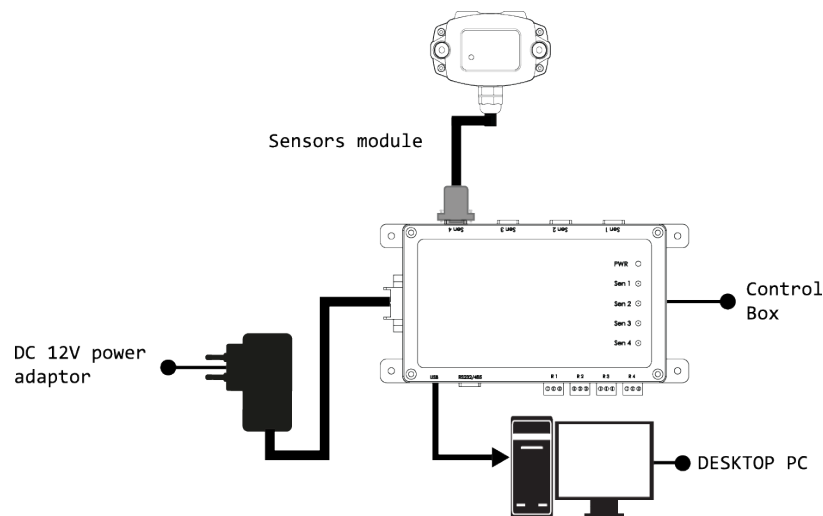

Figure 6. Diagram for USB connection through control box
4. Connect the USB cable from USB2.0 Standard-B Port on the control box to the PC as shown in Figure 6.